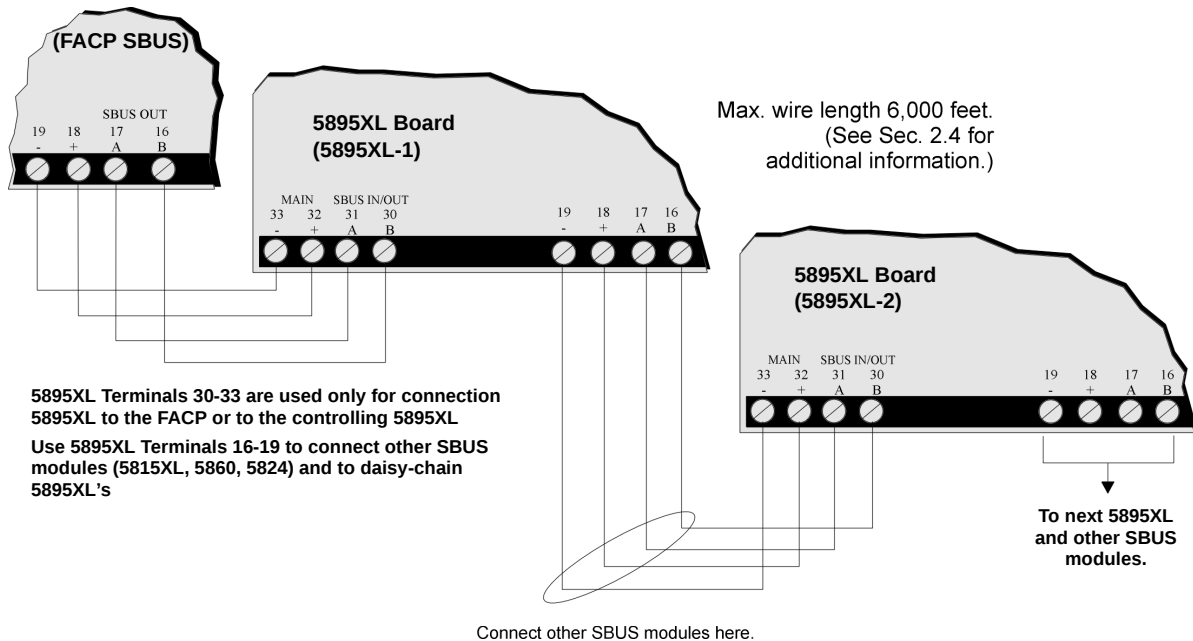

Figure 3-3 Class B 5895XL Connection to FACP
1. Connect the 5895XL to the appropriate SBUS. The 5895XL can be connected directly to the IntelliKnight 5820XL FACP or can be daisy-chained to another 5895XL. Figure 3-3 and Figure 3-4 show both connections.